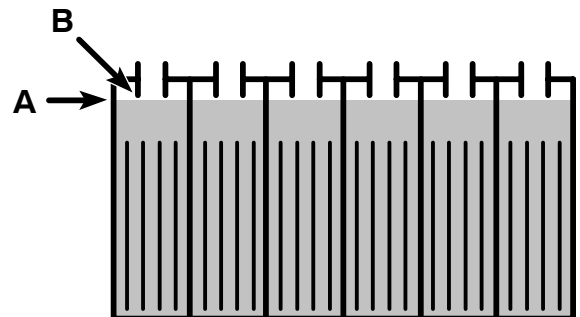

FIG. 32
7. After charging, check the electrolyte level (A) again. The level should be approximately 0.38 in / 1 cm from the bottom of the fill-port (B) (Figure 32). Add distilled water if needed. **DO NOT OVERFILL.**